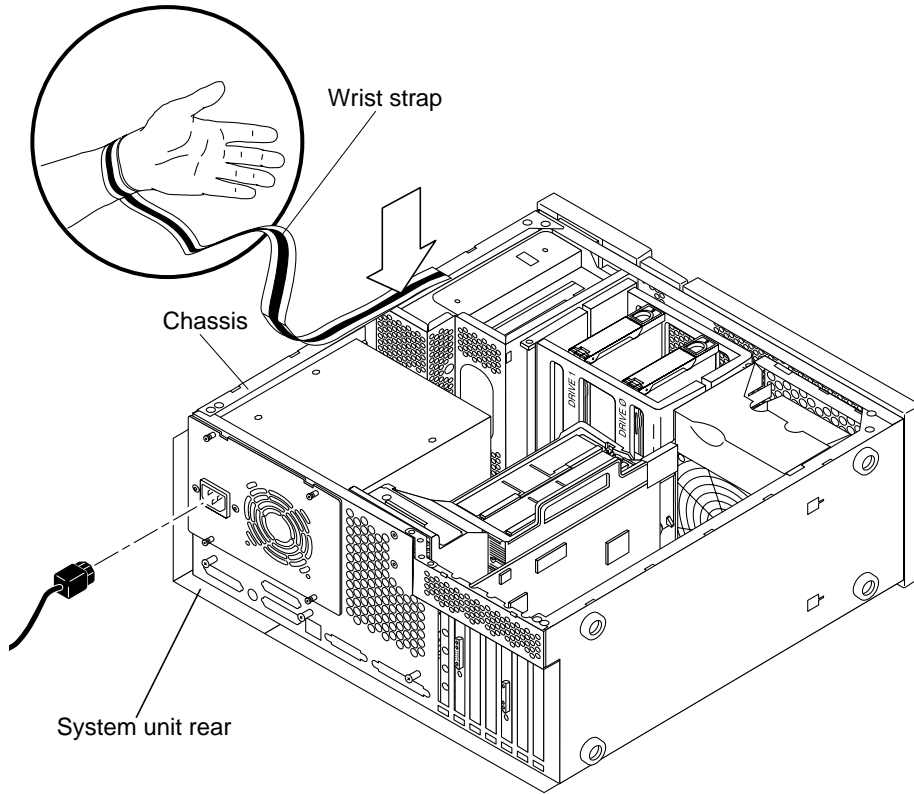

FIGURE 7-3 Attaching the Wrist Strap to the Chassis
3. Attach the copper end of the wrist strap to the chassis (FIGURE 7-3).